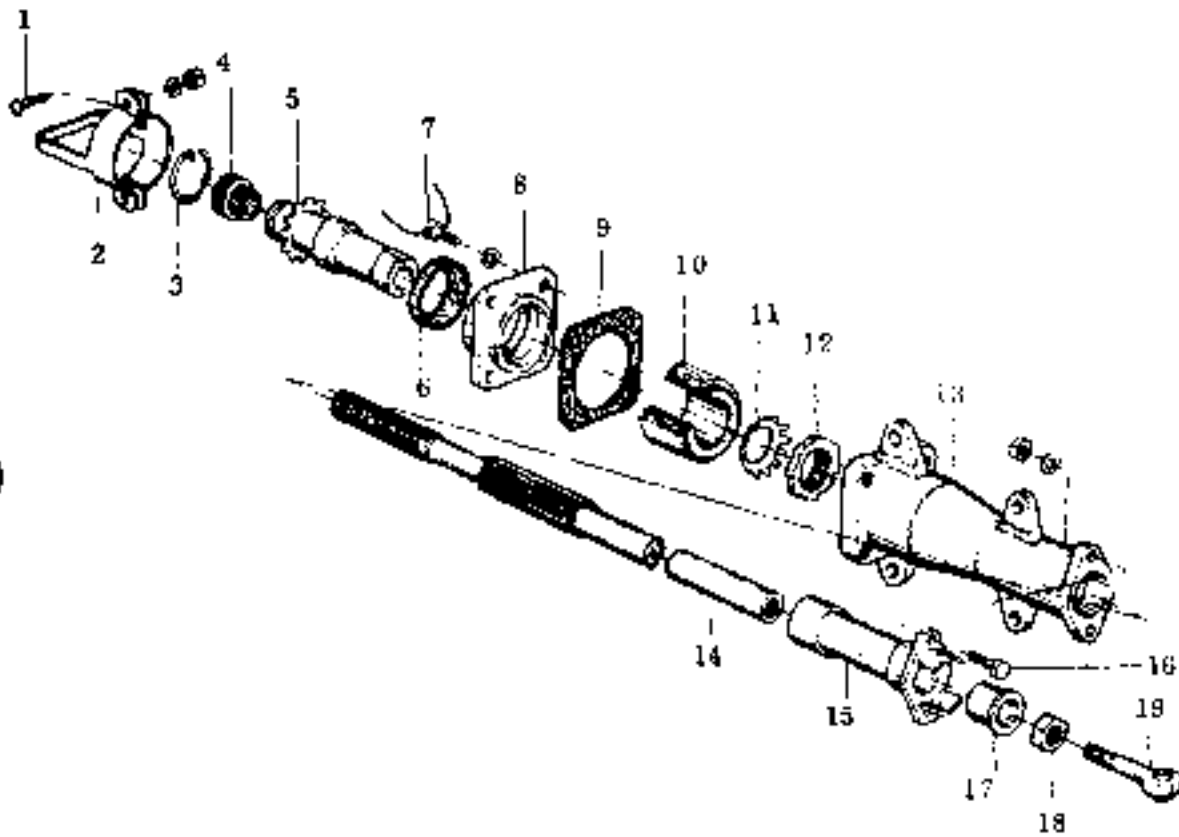

Fig. 5-61 Rudder trim actuator
7.4.2 DISASSEMBLY OF RUDDER TRIM ACTUATOR (See Fig.5-61)
- (1) Reassemble in reverse sequence of disassembly.
- (2) Make sure that the actuator actuates smoothly for full stroke after reassembly.
- (3) Adjust the length of rod end (19) so that distance between outer side of sprocket and center of rod end hole may be 14.622 ± 0.04 in. (371.4 ± 1 mm) when actuator is set to neutral position and rig pin is inserted, and tighten lock nut (18). (See Fig. 5-61)